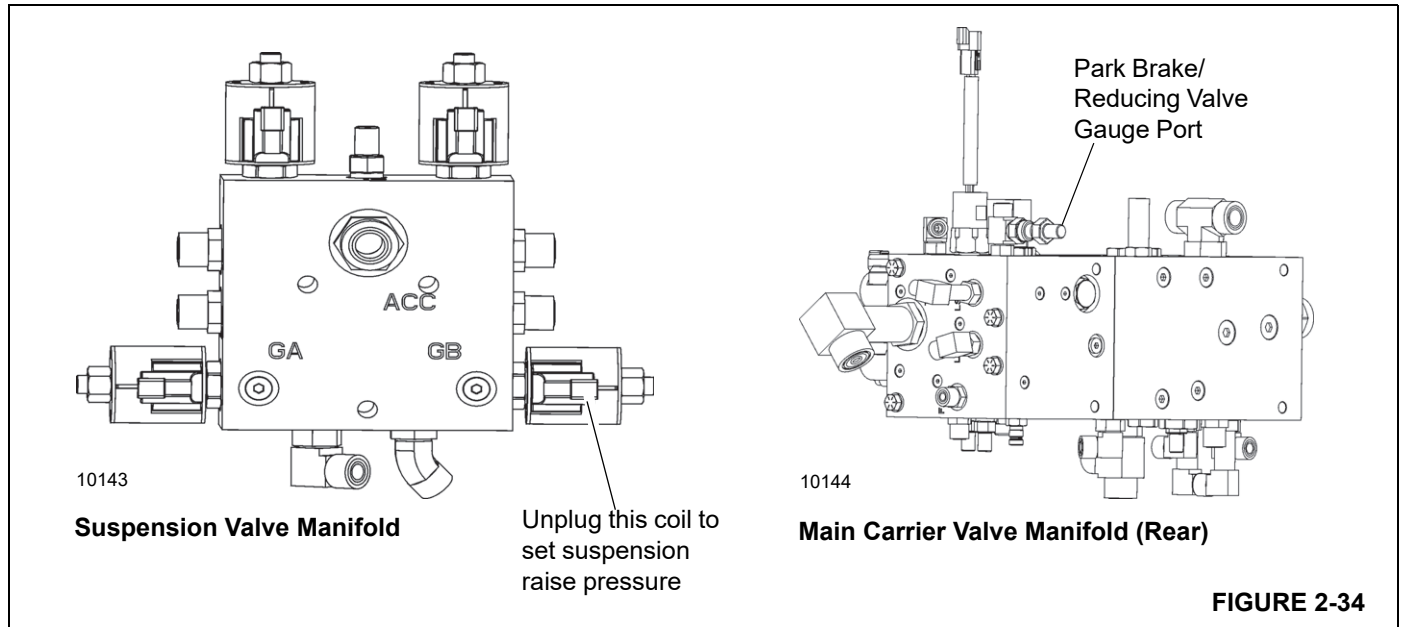

FIGURE 2-34
1. On suspension valve manifold (Figure 2-34), unplug the coil on valve inlet port P. Start the engine and idle. Operate the suspension fill function and hold. The reading at LS port (1, Figure 2-33) should read the value cited in Table 2-3. If it is not, use the service tool as follows to adjust:
- diagnostic nipple at the PS port of the main carrier valve (Figure 2-34).
2. Unplug transmission fan coil from harness (Figure 2-34).
3. Start engine and idle. Release (pressurize) the parking brake. Read gauge and adjust the pressure reducing valve (Figure 2-34) "in" to increase or "out" to decrease to the value cited in Table 2-3.